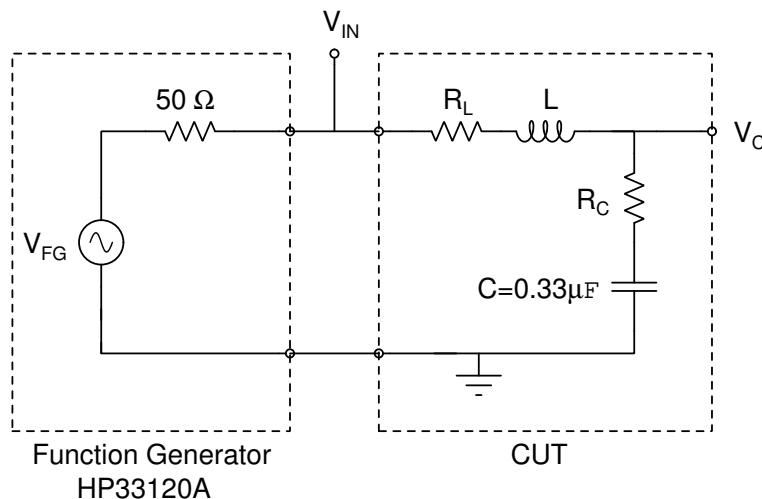

Figure 1: RLC circuit analyzed and measured in Lab #6.
3. Consider the circuit in **Figure 1** with $R_C = R_L = 0\ \Omega$ and $L = 1\ \text{mH}$.
3. Build the RLC circuit shown in Figure 1.
2. Use NGSpice to simulate the RLC circuit shown in Figure 1 using the measured values of the capacitor and inductor including the equivalent series resistances R_C and R_L .